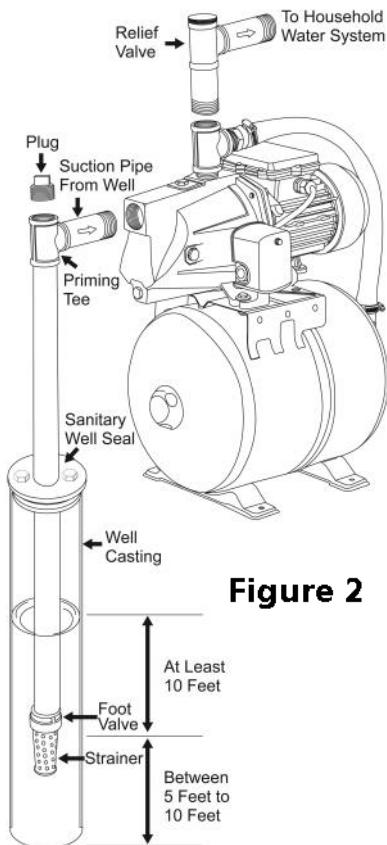

Figure 2
3. Install a priming tee with a plug on the suction pipe from the water source as shown in Figure 2. Install a union to allow the pump to be easily disassembled from the piping for easy servicing. **Make sure Teflon tape or pipe joint compound is used on all joints. The suction pipe should be at least $1 \frac{1}{4}$ "**